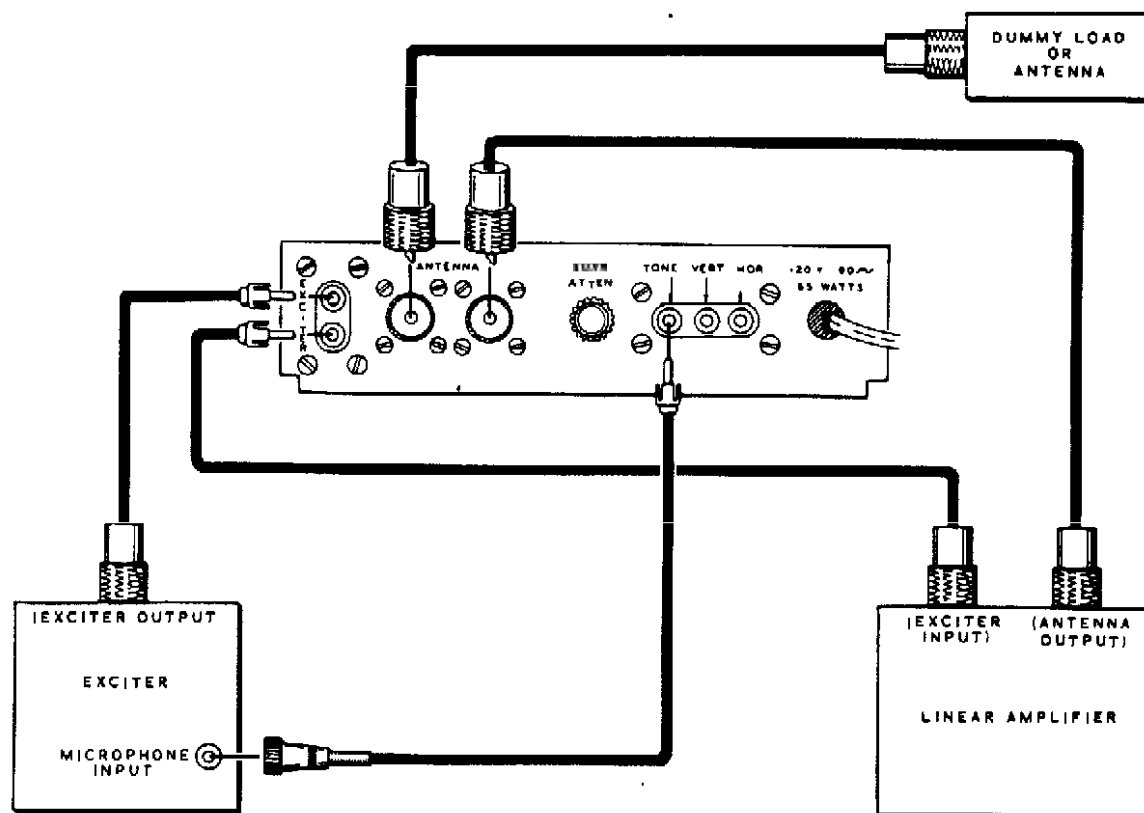

Figure 13
RF TRAPEZOID PATTERNS (Figure 13)
To check a linear amplifier for linearity, it is necessary to compare the exciter RF output with the RF output of the linear amplifier. The setup used for this purpose is shown in Figure 13.
- () Connect the other lead of the capacitor to lug 4 of the coil (NS).
- () Connect the Scope to the transceiver as shown in Figure 13 on Page 37.